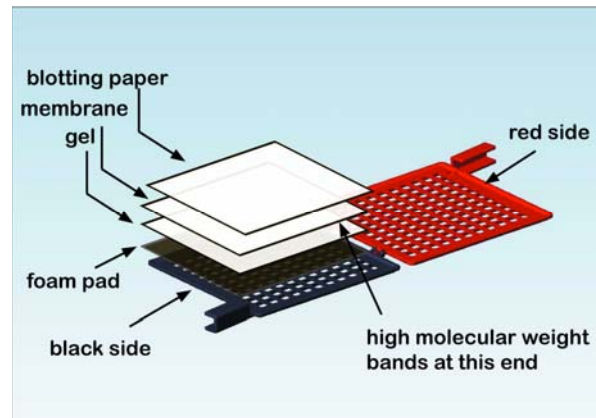

Figure 9
4. Assemble blotting stack. With blotting cassette wide open assemble components on black side in the following order, as shown in Figure 9: foam pad, gel*, buffer saturated transfer membrane, then buffer saturated blotting paper. Smooth with gloved finger or roll with glass rod to be sure no bubbles exist between the gel and the transfer membrane.